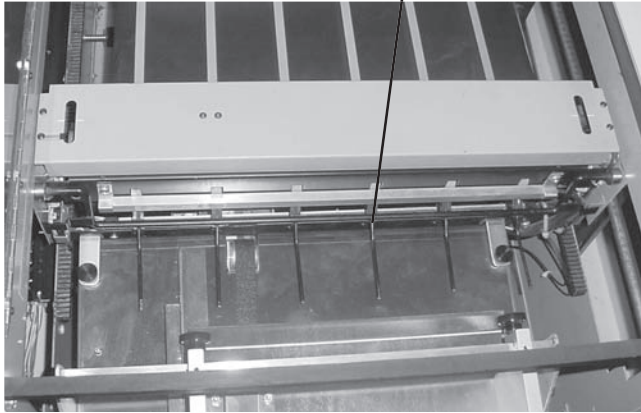

Fig. 27
**Burster (2084)** - The burster is equipped with an outfeed jam detector grill (Fig. 27). This device senses jams between the burster and the transfer table and stops the burster until the jam is removed and the machine is restarted.